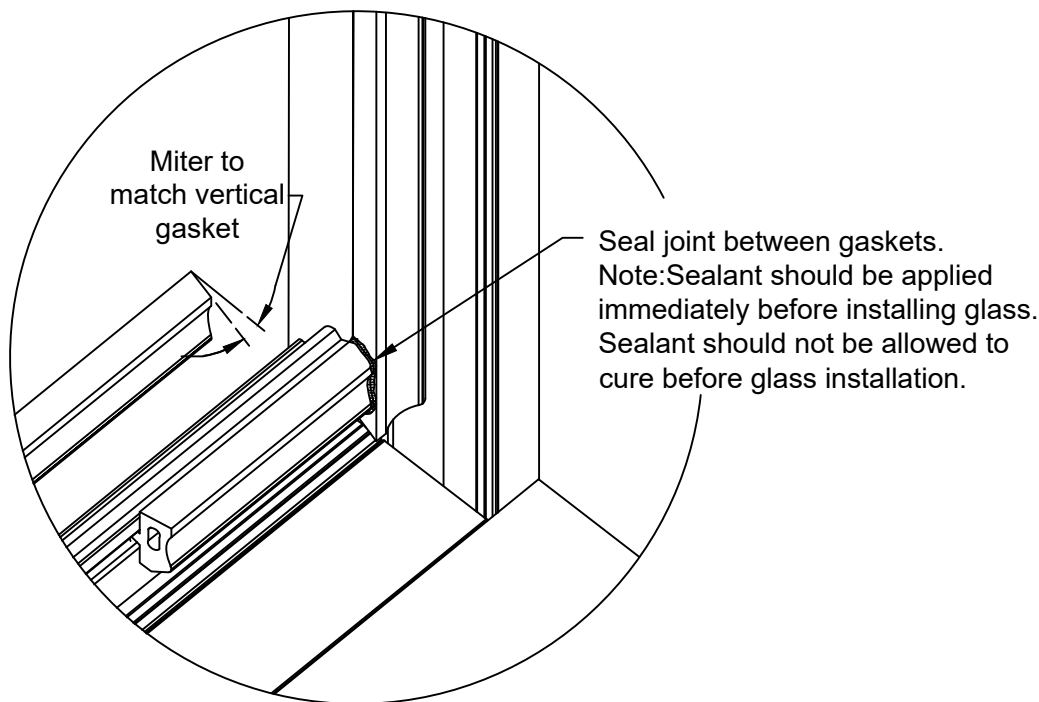

FIGURE 25
- 4.1 Note: To avoid silicone curing before glass is set in place and contamination from job-site debris, glazing prep must be performed as each opening is glazed. Gasket should be cut 1/4" per foot longer than openings to allow for relaxation prior to installing. Do not pre-seal the gaskets in the entire frame; install and seal gaskets as you are ready to set glass in each opening. Install exterior gaskets, both horizontal and vertical, installing vertical gaskets first. If the vertical mullion is spliced, run gasket through the splice joint, setting gasket in fresh silicone at splice joint, trimming the gasket dart as necessary to form an airtight seal. Glazing gaskets at verticals run through; horizontal gaskets butt into vertical gaskets. Crowd the gaskets into corners, cutting the horizontal gaskets at an angle to match bevel on vertical gaskets. Pulling the horizontal gasket back, seal joint between the corners of the gaskets just prior to setting the glass. Release the gasket back to its original position, making sure sealant fills the entire joint. SEE FIGURE 25
- 4.10 Glazing captured system: Install interior gaskets running the vertical gasket through and butting horizontal gaskets between. Joint between vertical and horizontal gaskets must be sealed. Horizontal gaskets should be mitered per FIGURE 25, page 25. Crowd gasket using the formula of 1/4" per foot of aluminum extrusion. Note: Interior gaskets will be installed prior to setting glass at exterior glazed areas.